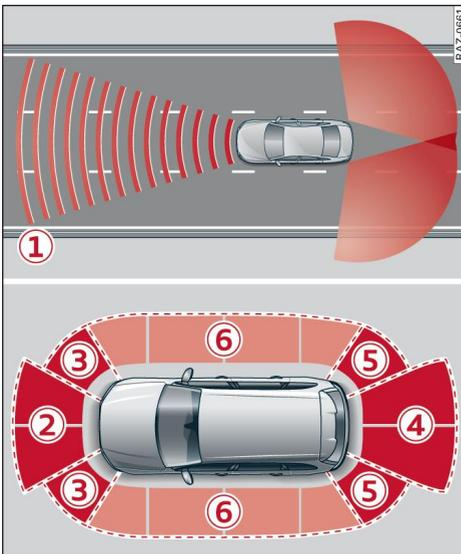
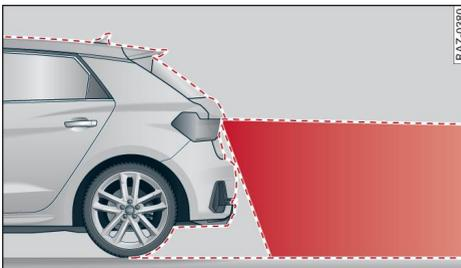

Fig. 79 Areas covered by sensors
Fig. 80 Area covered by reversing camera
Depending on the vehicle's equipment, the area in front of and behind the vehicle can be detected ⇒ Fig. 79 ①.
Depending on the vehicle's equipment, ultrasonic sensors may be used to depict various areas on the MMI ⇒ Fig. 79.
The reversing camera is only able to detect the area shown in red ⇒ Fig. 80. Only this area is shown on the centre display ⇒ ⚠.
- The areas covered by the sensors ⇒ Fig. 79 and cameras ⇒ Fig. 80 are examples and do not represent the range to scale.